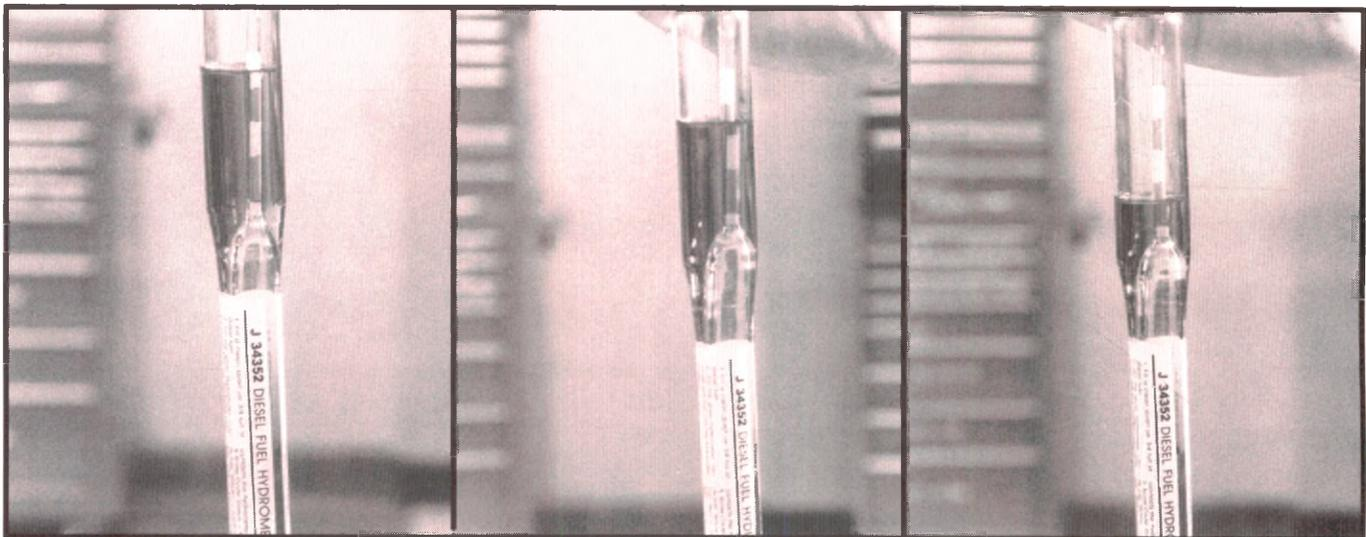

Figure 4-13, Fuel Specific Gravity Check
4. Read the scale on the glass bulb at the point where the top of the fuel sample contacts it (figure 4-13):